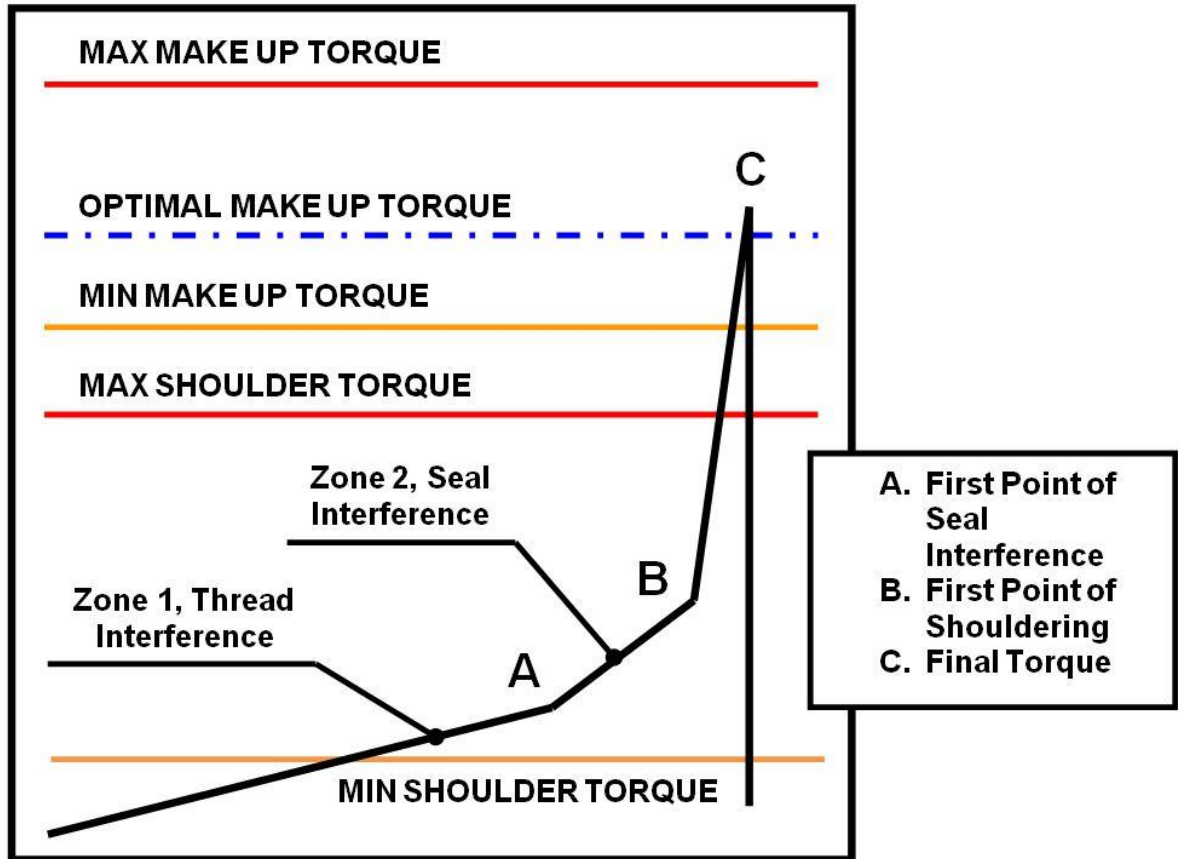

Figure A.1 - Typical Torque-Turn Plot
- Figure A.1 graphically illustrates a typical torque-turn plot.